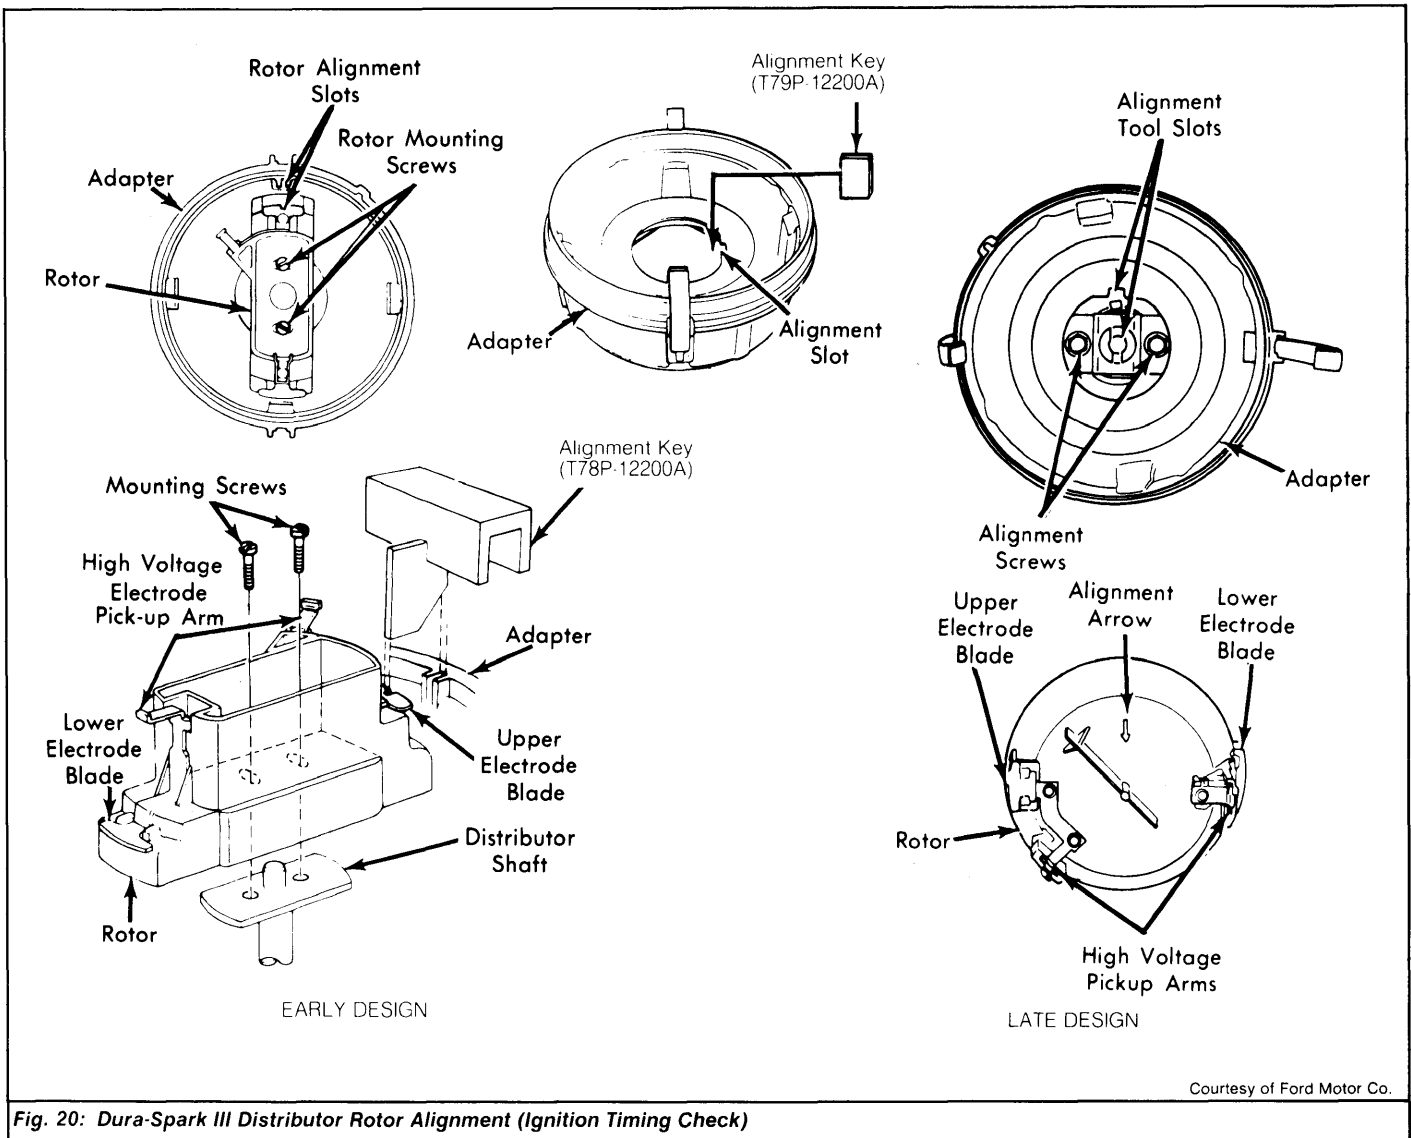

Fig. 20: Dura-Spark III Distributor Rotor Alignment (Ignition Timing Check)
3) On late design distributor, use Alignment Key (T79P-12200A) between slot on sleeve and slot on adapter. See Fig. 20. On all models, read timing mark on damper indicated by timing pointer.